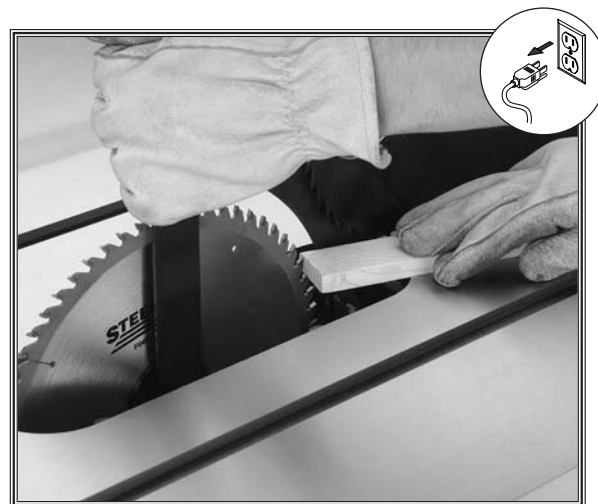

Figure 31. Blade installed in table saw.
3. If there is a blade installed, brace the blade as shown in Figure 31, and rotate the arbor nut counterclockwise to remove the nut and flange.
6. Use a scrap block of wood to brace the blade as shown in Figure 31. Tighten the arbor nut against the blade with the arbor wrench. **DO NOT** over-tighten the nut.